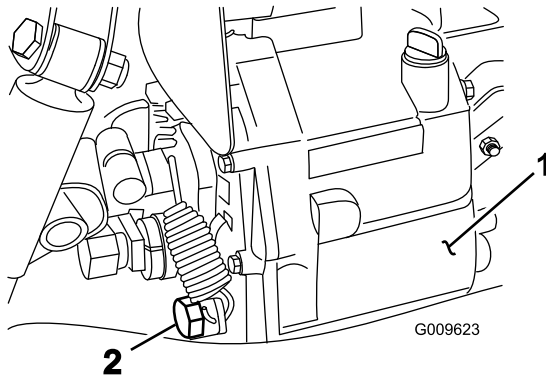

Figure 58
2. Remove drain plug from side of reservoir and let hydraulic fluid flow into drain pan (Figure 58). Reinstall and tighten plug when hydraulic fluid stops draining.
2. Remove drain plug (Figure 58). from side of reservoir and let hydraulic fluid flow into drain pan.